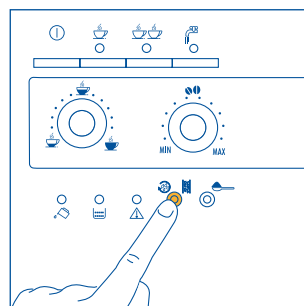

Fig. 14
1) If, when the machine has just been turned on, a short cup of coffee is required (less than 2 oz), use the hot rinsing water to pre-heat the cups (see suggestion in section 4.3, point 5). If, on the other hand, more than 2-3 minutes have elapsed since the last coffee was made, before preparing **another coffee the infuser must be pre-heated, pressing the  button (Fig. 14).**